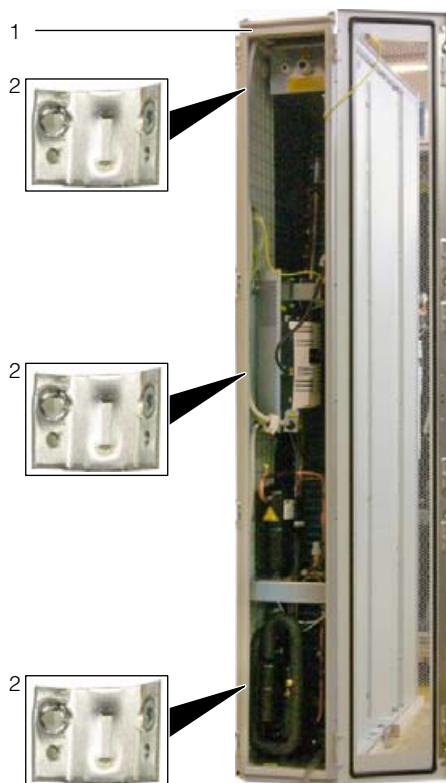

Fig. 17: LCP Rack DX – rear
- Using the corresponding assembly screws, fasten three baying connectors each (fig.17, item 2) onto the attachment points provided in the mounting strips on the front and rear of the LCP DX (fig.17, item 1).